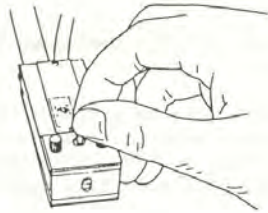

Figure 5
1. Screw the hook into the Hook Securing Hole (5) until it stops (Figure 5).